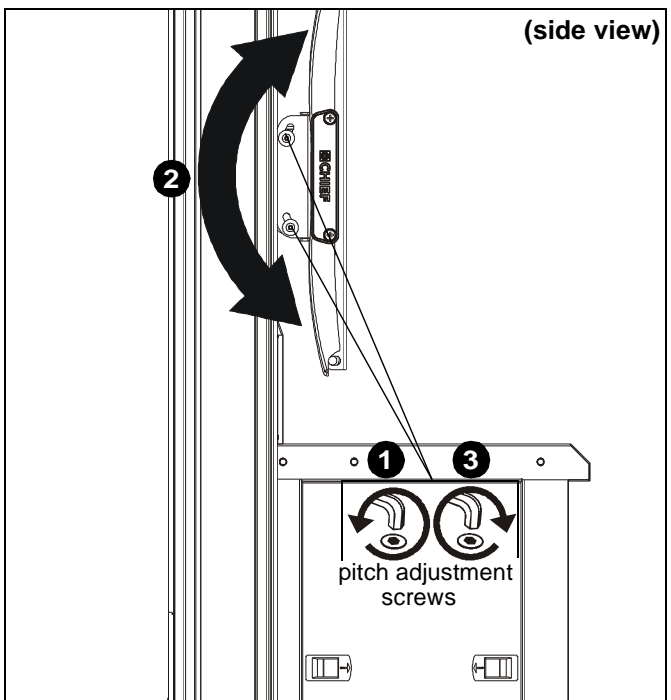

Figure 18
1. Loosen pitch adjustment screws to allow pitch to be adjusted. (See Figure 18)
2. Adjust pitch as desired. (See Figure 18)
3. Tighten pitch adjustment screws to lock pitch position. (See Figure 18)